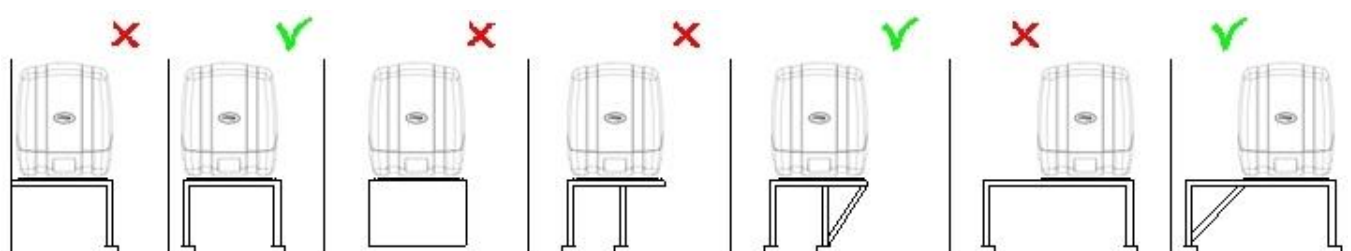

Figure 1: Mounting of a Whisper generating set. X = wrong, V = OK
1. Most important is the structure on which the genverter is placed to be stiff. Directly below the base frame the structure should be supported vertically to the trusses of the boat. When this is not possible horizontal structures should be made stiff by additional provisions (refer to Figure 1).
5. Never connect the base of the generating set directly to walls or tanks (refer to Figure 1).